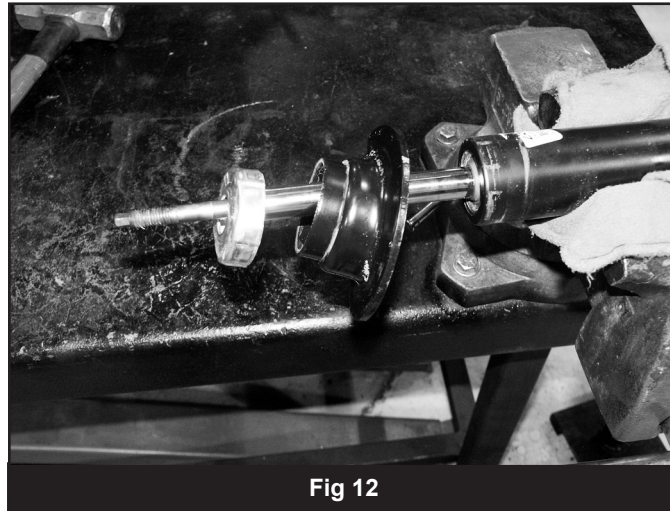

Fig 12
18. With the coil seat against the strut seal cap, tap the coil seat with a hammer to remove the seal cap and coil seat from the strut body (Fig 12). Retain the coil seat and seal cap.